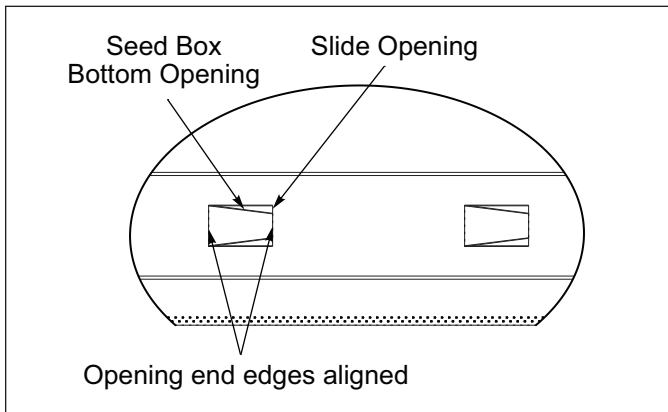

Figure 4-9: Shifter Handle Set at “6”
- When the Shifter Handle is set to “6” (open), the Agitator Box bottom opening end edges are aligned with the Slide opening end edges. Agitator Box bottom opening is completely visible. See Figure 4-9.